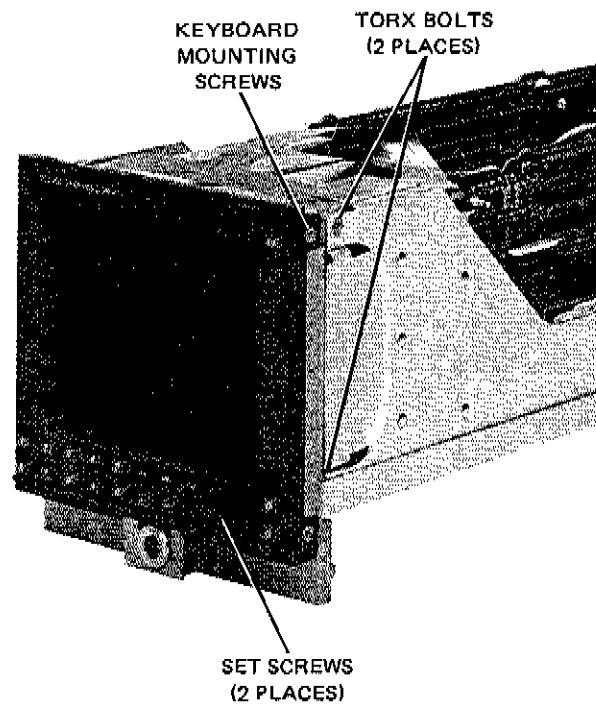

Figure 5. Front Panel and Keyboard Removal
3. Remove the two set screws holding the display knob, and remove knob. See Figure 5.
5. Remove the four Torx bolts holding the front frame to the module frame. (Use Torx handle, HP Part Number 8710-1413, and T9 Bit, HP Part Number 8710-1521. See Figure 5.